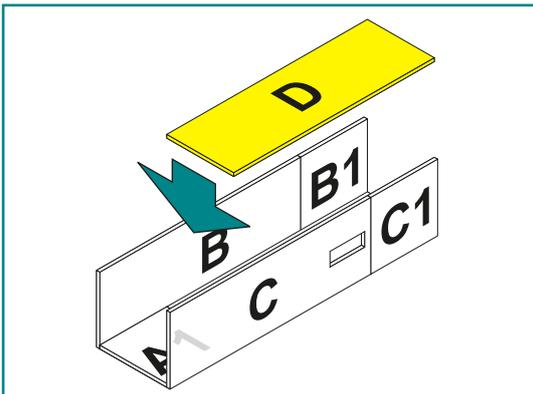

figure 7
2.2.6 Mount panel D to panels B, B1, C and C1 (figure 7)